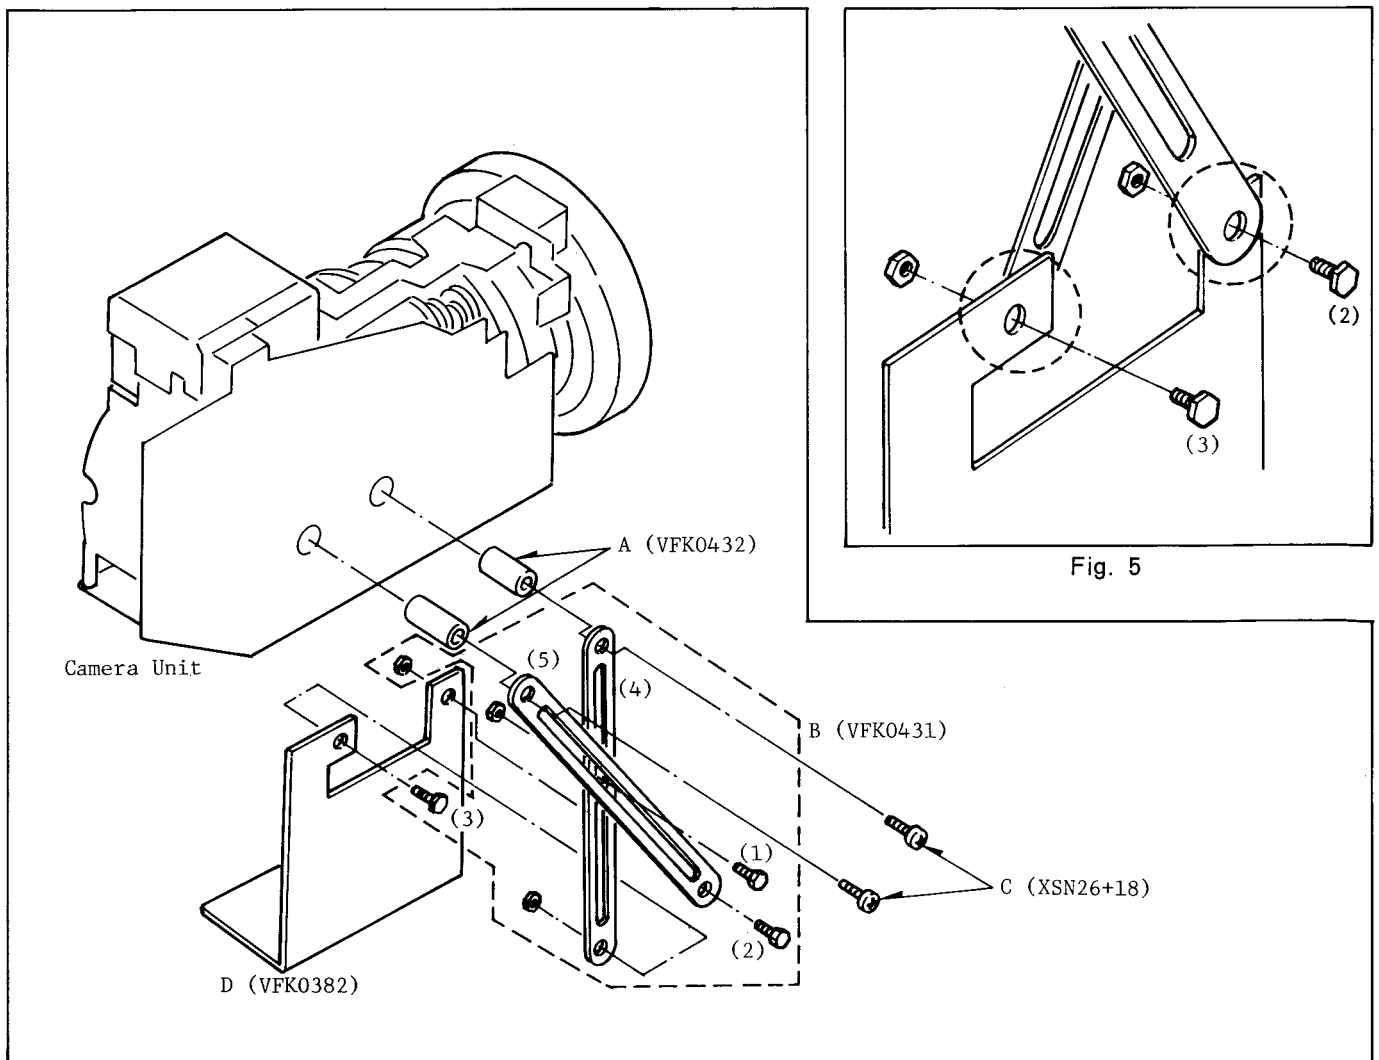

Fig. 4
- (A) --- VFK0432 Holder Spacer (2pcs.)
- (B) --- VFK0431 Camera Holder Arm
- (C) --- XSN26+18 Screw (2pcs.)
- (D) --- VFK0382 Camera Holder
- (1) Fix the Holder Arm (4) and (5) temporarily by screw (1) as shown in Fig. 4.
- (3) Tighten the screws (C) with the Holder Spacers (A) as shown in Fig. 4.